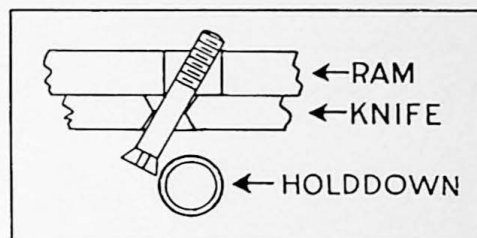

Fig. 17. Removing Knife Bolts at Holddowns
4. Push the upper knife to the left as far as possible and take out the remaining bolts, Fig. 17. On 43, 62 and 100 shears, push the knife to the right.